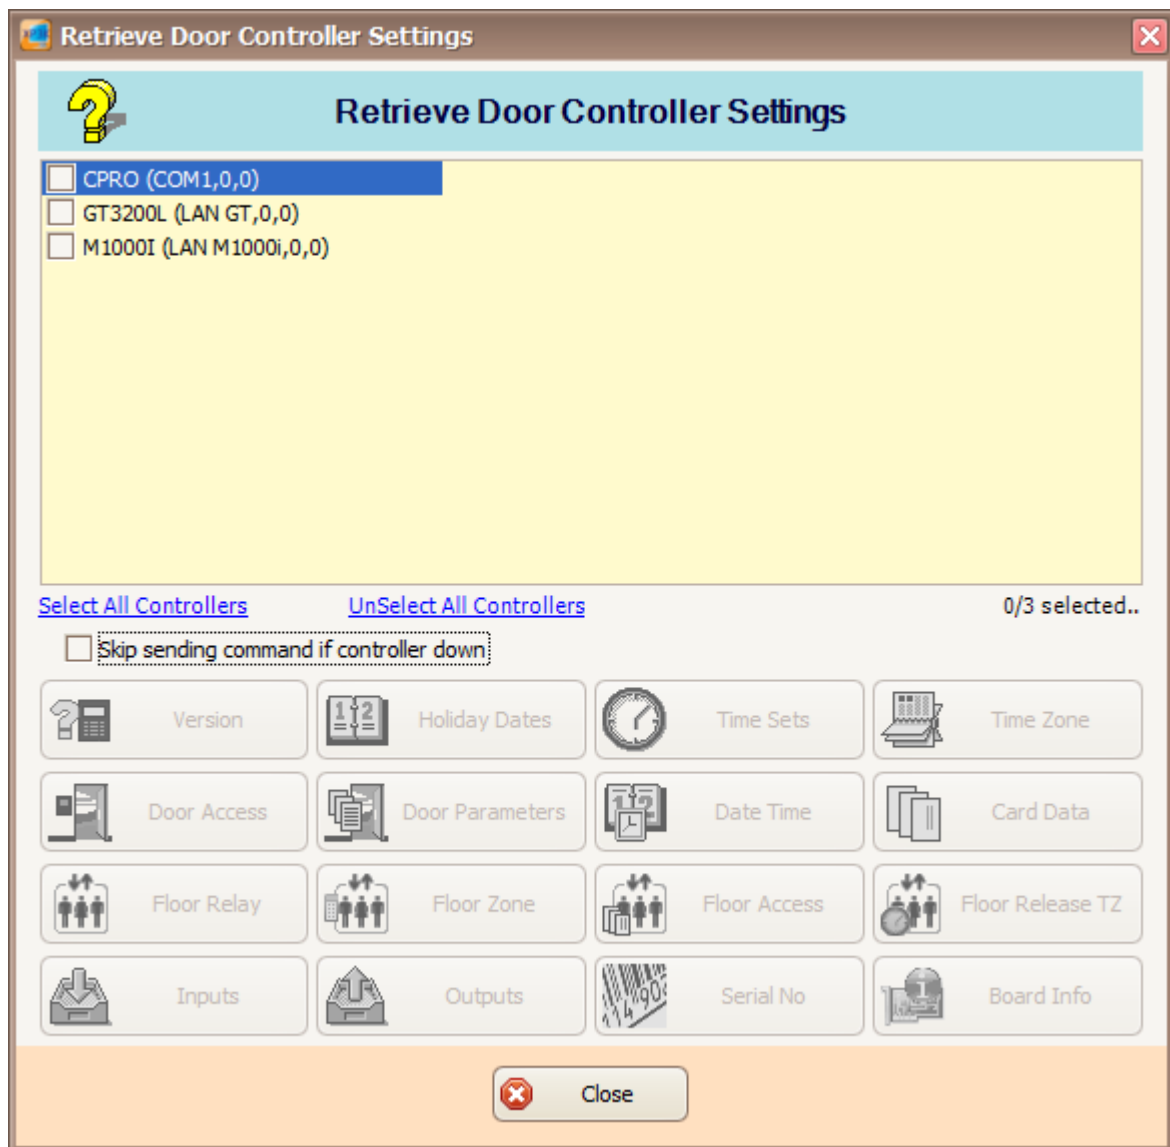

Figure 265 - Retrieve Door Controller Settings
2. The following window will be shown (Refer **Figure 265**).